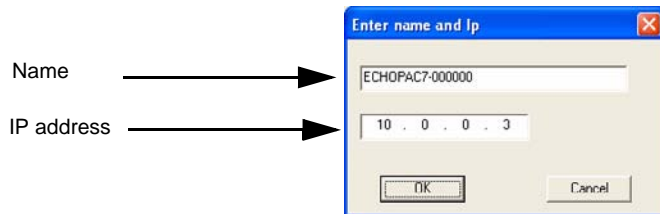

Figure 3-78 Edit Name and/or IP address
- c.) Edit the name and/or the IP address of the server, see Figure 3-78.